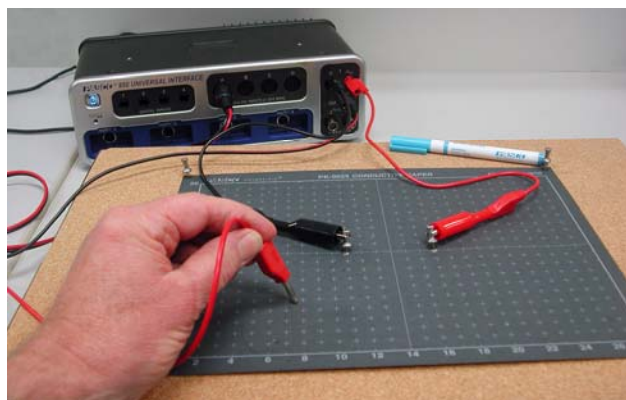

Figure 3: Setup
3. Attach a red patch cord to the red terminal of Output 1 (attach a second red for pattern G). Attach a black patch cord to the black terminal. Attach an alligator clip to the other end of each patch cord and clip each to a silver push pin (see Figure 3). Insert the push pins into the appropriate electrodes on the pattern drawn on the conductive paper. *It is important that you do not bump the electrode push pins during the experiment* since doing so may change the voltages on the paper. This is not a disaster since the shapes of the equipotential surfaces will not be affected, but it is frustrating to be tracing a 4.0 V surface that suddenly becomes a 3.0 V surface.